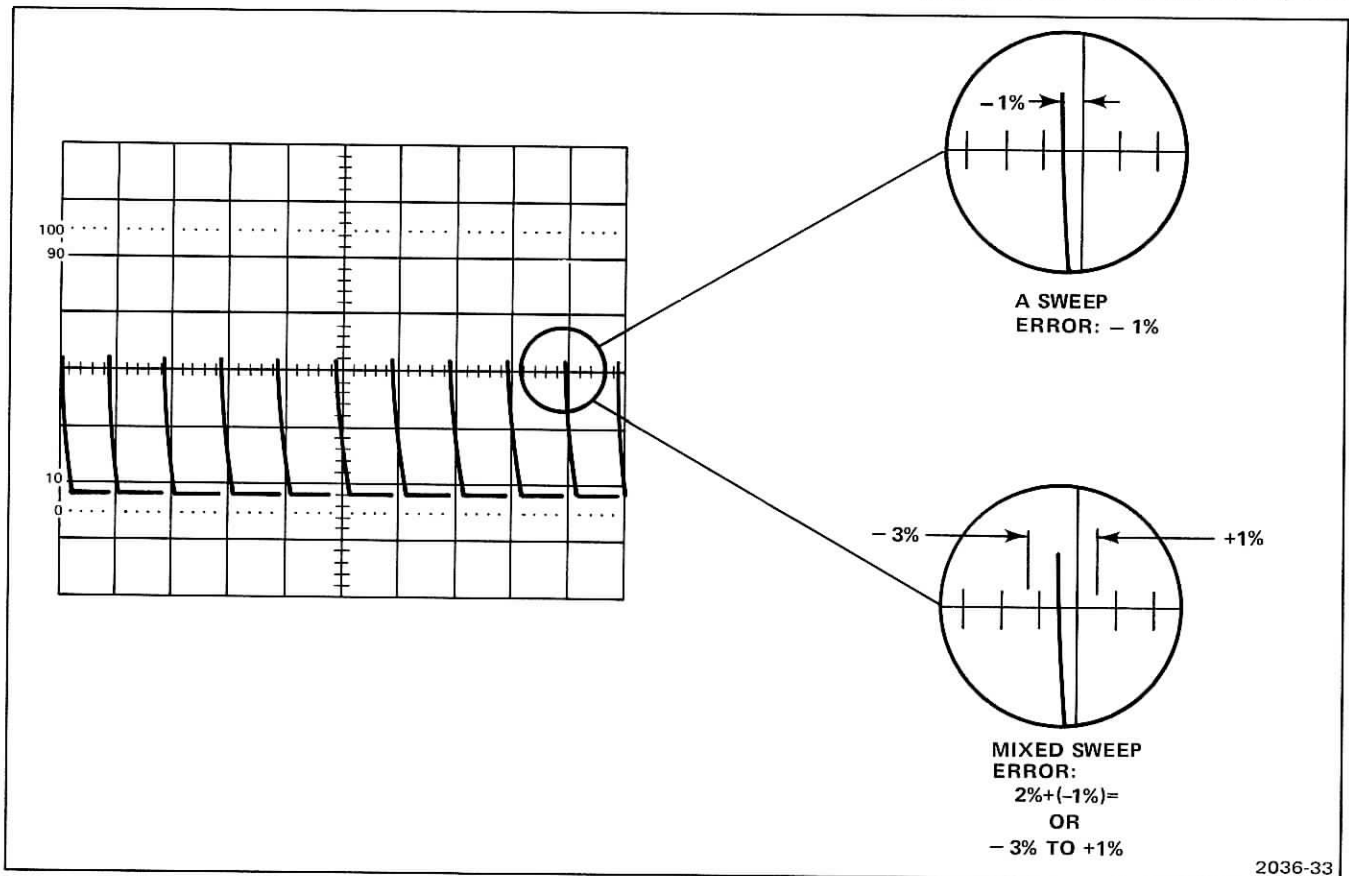

Fig. 3-4. Mixed sweep timing accuracy.
- e. CHECK—Timing error between second and tenth time markers is within 0.18 division plus the error noted in part c (see Figure 3-4).